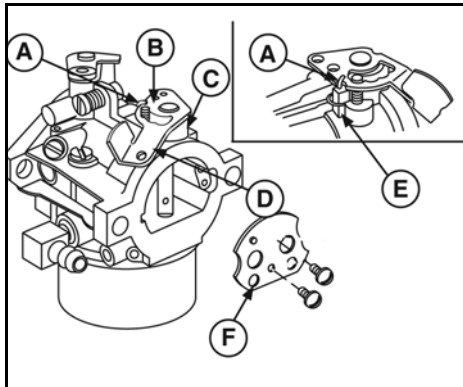

Figure 48
- Install new foam seal and return spring (C, Figure 48) on choke shaft, hooking small hook (A) in notch on choke lever (D).
- Insert choke shaft assembly into carburetor body and engage large end of return spring (E) on boss. If carburetor has detent spring, guide spring into slot in choke shaft lever (B).
- Place choke valve (F) on shaft and install screws, then actuate the choke shaft to check for proper movement.